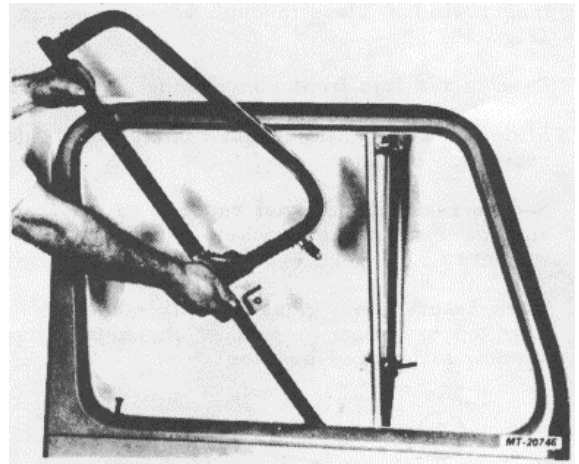

Fig. 17. Removing or Installing Door Vent Glass and front Run Channel
The door vent-glass and front run channel (Fig. 17) is serviced as one assembly. It is held in place in door by two pan head screws and two hex head bolts.
4. Lift out vent glass and front run channel as an assembly through window frame (Fig. 17).